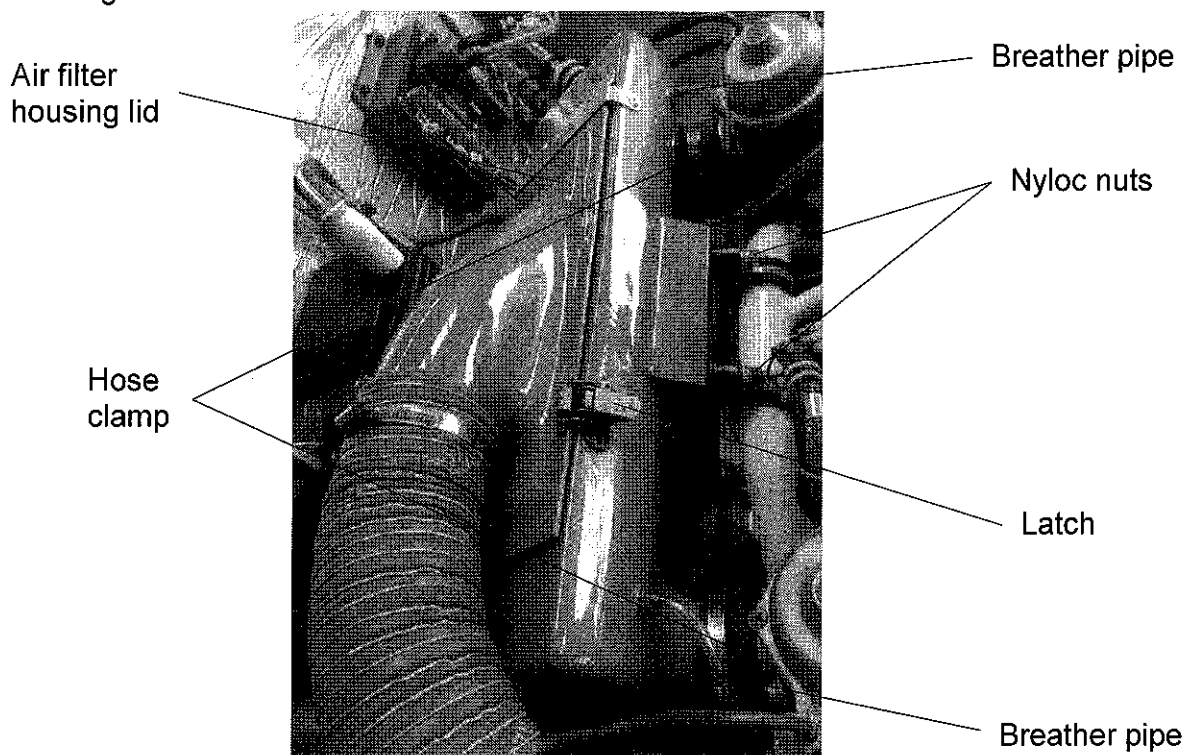
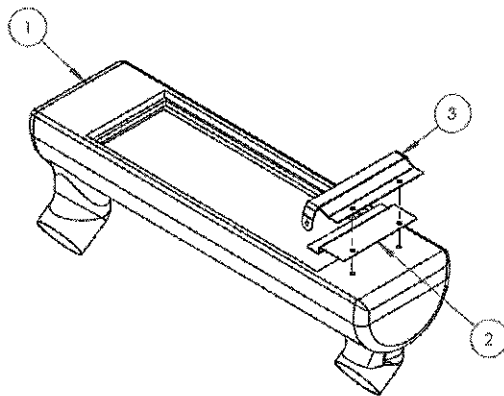

Figure 1: Removal of air filter housing
Figure 3: Air filter brackets
- Remove the air filter housing from the engine by removing the clear breather pipes from the carburettor, the M6 nyloc nuts at the rubber mounts and loosening the 40 – 60 mm hose clamps as shown in Figure 1.
- Fit the new bracket (FF-BKT-024-C-A-0) under the existing airbox bracket as shown in Figure 3.
- Secure both brackets by replacing the four (4) drilled out rivets with 4 x 10 mm aluminium sealed rivets.
- To refit the air filter housing on the engine, replace with new M6 nyloc nuts, tighten the hose clamps and fit the clear breather pipes as indicated in Figure 1. The air filter housing lid may be secured with the latches once the new air filter is installed.